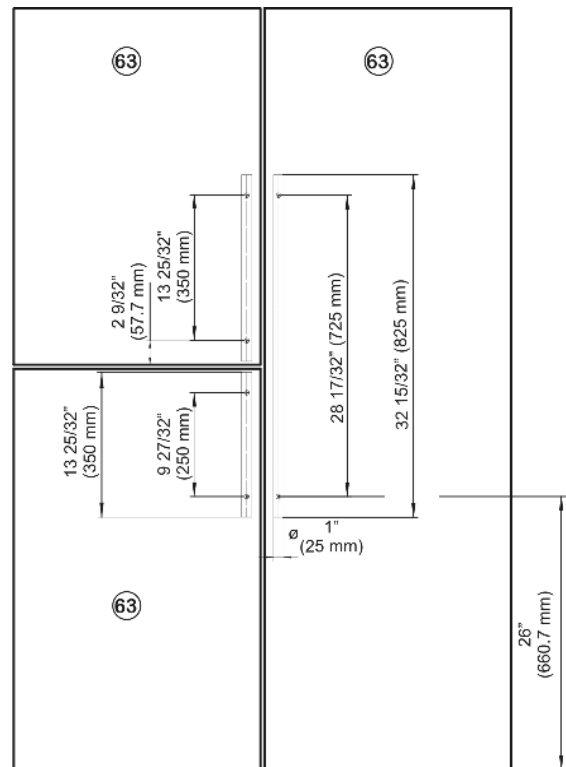

Fig. 75 Handles from the manufacturer Ø 1" (25mm)
- ▶ Fit handles to the overlay panel *Fig. 75 (63)* as shown in the diagram.